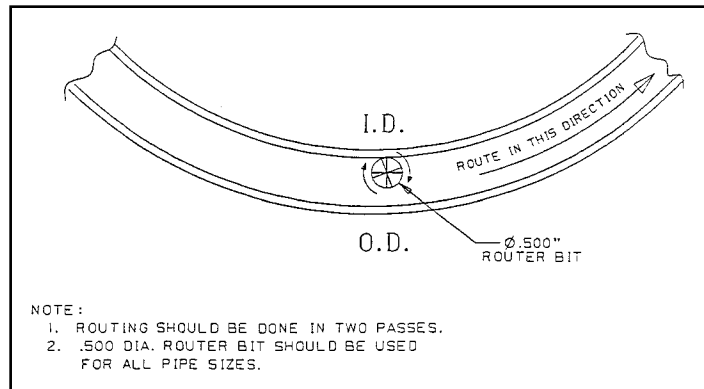

Figure 8
6. Adjust the router so that the bit will now remove any remaining rib without cutting into the inner wall, see Figure 8. Route the remaining rib as performed on the first pass.